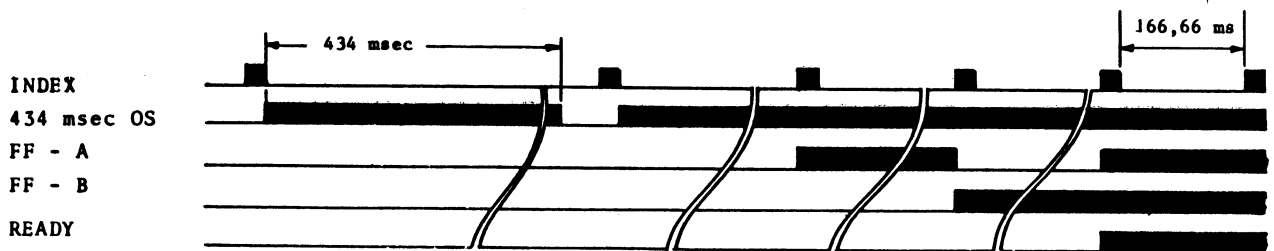

FIGURE 2 - 24 . READY TIMING
2.3.8. SECTOR SEPARATOR (HARDSECTOR OPTION) AND SECTOR DIVIDER OPTION (FIGURE 2 - 25)